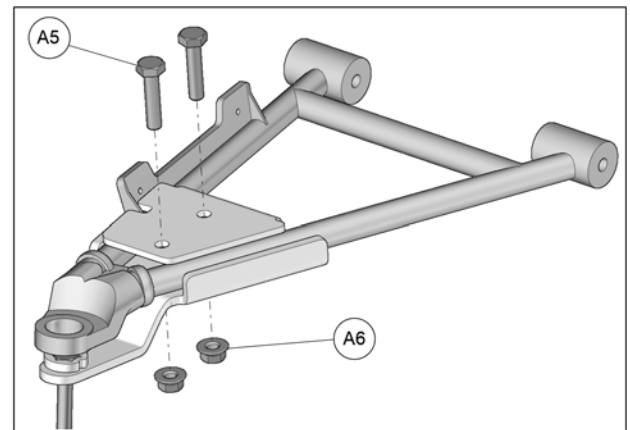

Fig. 16
6. Insert the M10x45mm bolts (A5) from the top and secure the two parts together with the nuts (A6) provided. Tighten assembly to 50 N•m [37 lb•ft] of torque. See Fig. 16